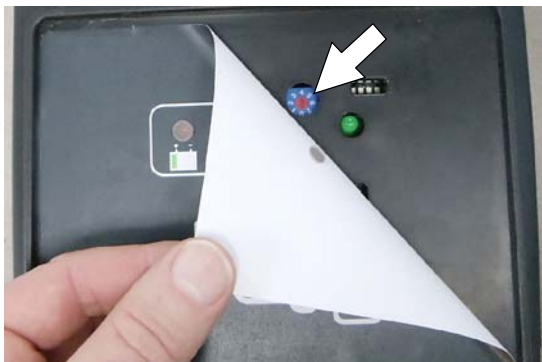

FIG. 45
3. Carefully peel back the charger display label to access the dial settings (Figure 45).